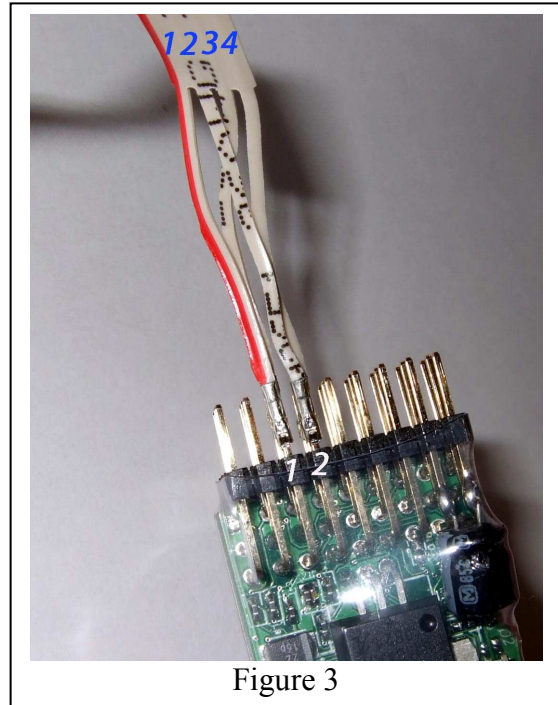
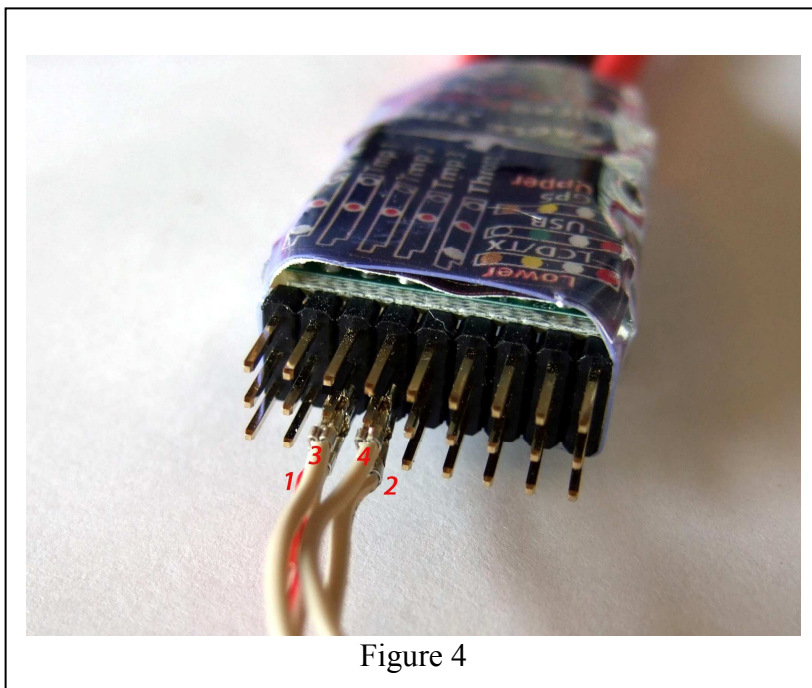

Figure 3
Figure 4
c) The wires on the ribbon cable are numbered from “1” to “4” on Figure 3. Note that these numbers correspond with the numbers shown in Figure 1. Note: don’t assume the red wire on the CPD-4 harness is wire number “1.” Refer to the polarity of the CPD-4 connector in Figure 1 to determine which wire is wire 1.
Figure 3 and Figure 4 show how to connect these numbered wires to the eLogger. Note: the photos do not have the wire harness pins insulated, for clarity. But, you must do so!